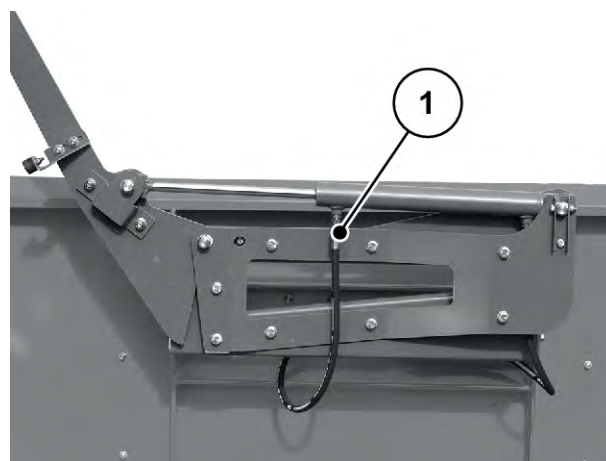

Fig. 102: Hydraulikcylinder, presenning
- hydraulikcylindrene til presenningens drev. Fig. 102 *Hydraulikcylinder, presenning*